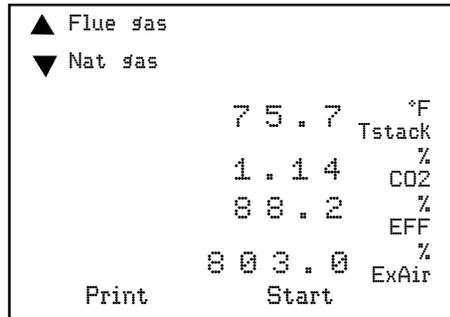

fig 7
- ✓ Flue Gas Measuring Mode Displayed (fig. 7)